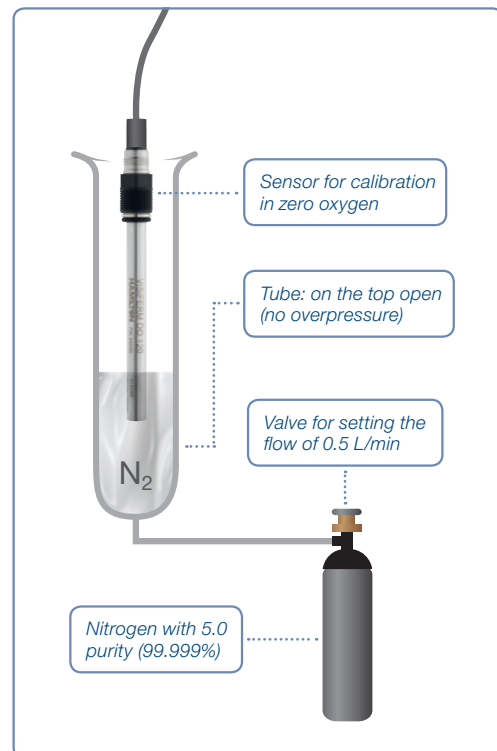

Figure 21: Zero point calibration setup.
- 6) Immerse the sensor into an oxygen-free environment (Figure 21) for e.g. nitrogen gas with 5.0 purity (99.999%) and nitrogen flow rate: 0.5 L/min with 3 to 4 bar pressure (no overpressure). Let the system equilibrate and ensure stable conditions for at least three minutes.